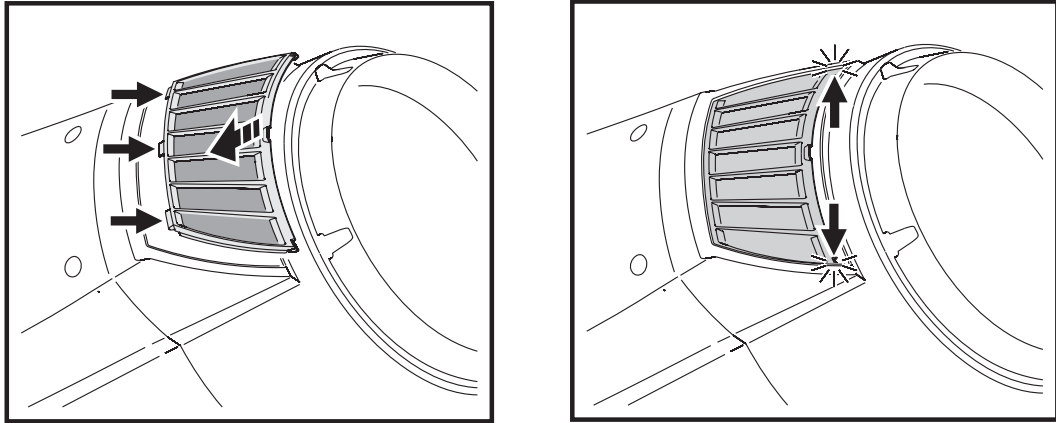

Figure 18: Reinstalling head air filters
6. See Figure 18. Engage the three tabs in the head filter holders in their slots in the head, pinch the foremost corners of the filter holder together slightly and press them into the head to clip them back into position.